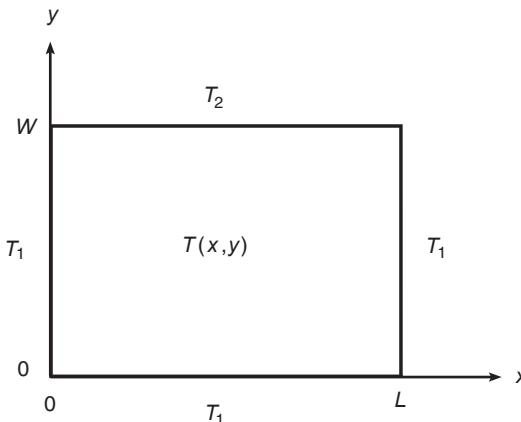

Figure P38
38. Many applications require us to know the temperature distribution in an object. For example, this information is important for controlling the material properties, such as hardness, when cooling an object formed from molten metal. In a heat-transfer course, the following description of the temperature distribution in a rectangular metal plate is often derived. The temperature is held constant at T_1 on three sides and at T_2 on the fourth side (see Figure P38). The temperature $T(x, y)$ as a function of the xy coordinates shown is given by